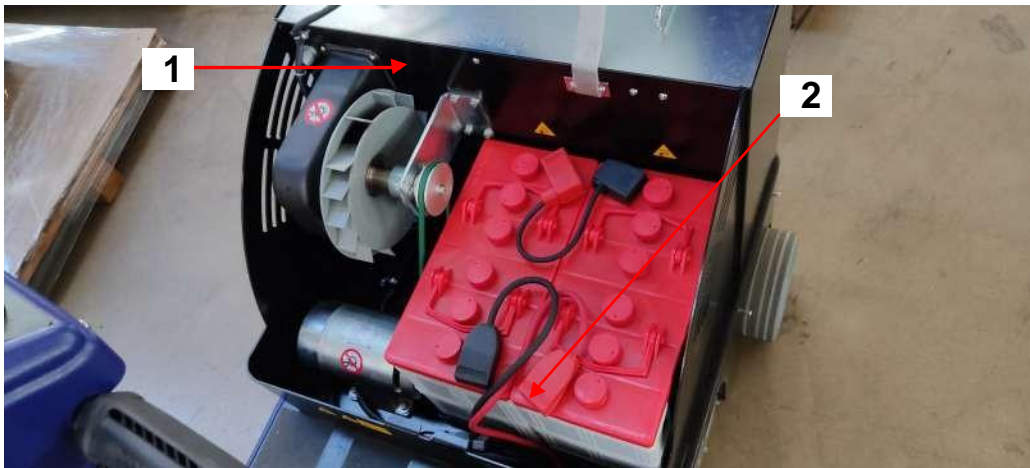

Figure 4.5.1
- Lift the seat cover to expose the battery compartment (Figure 4.5.1 detail 1)
- Install the batteries into the battery compartment (Figure 4.5.1 detail 2) and make sure there is no damage to the battery housings